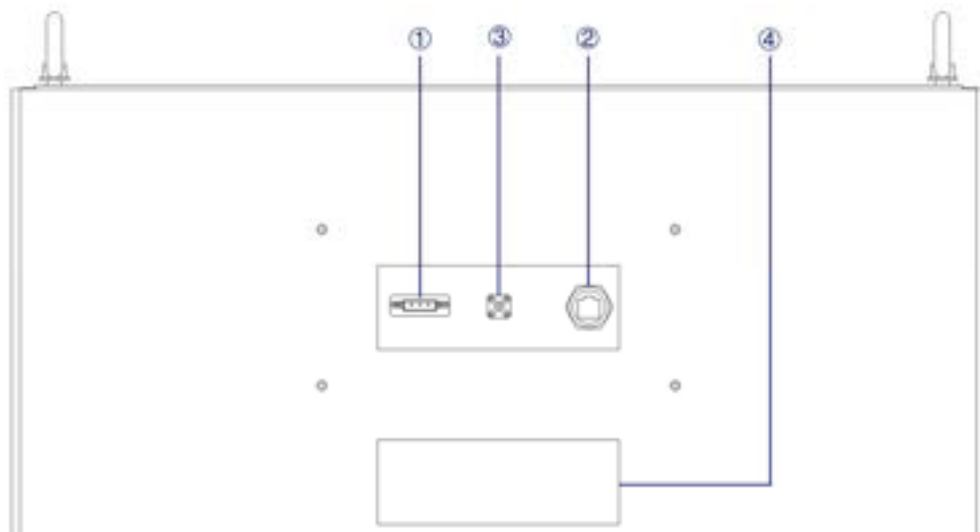

Figure 1-9 Rear panel
The RS485 interface is located on rear panel of the power supply (Figure 1-9①).